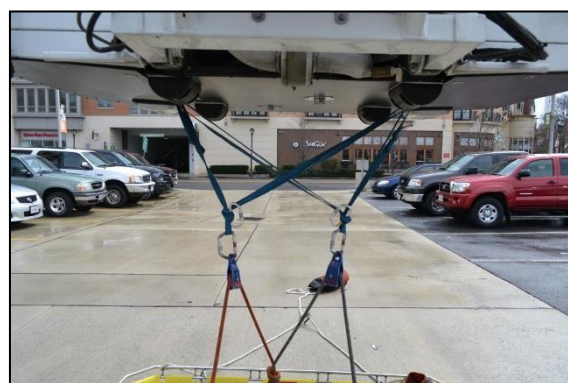

Figure 1 – Two-Point Fixed-And-Focused Anchors Attached to Eye Hooks
- Applying 1-inch webbing arranged as a two-point fixed-and-focused offset anchor to the 500-pound-rated eye hooks fixed to the bottom of the aerial bucket (Figure 1),